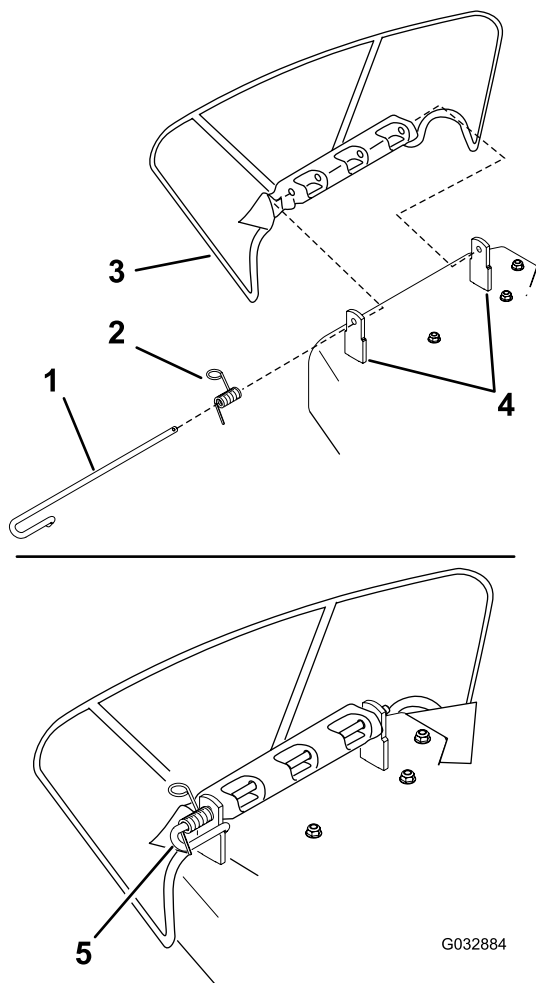

Figure 62
1. Disengage the spring from the notch in the deflector bracket and slide the rod out of the welded deck brackets, spring, and discharge deflector (Figure 62). Remove the damaged or worn discharge deflector.
Note: Position the spring on the rod as shown in Figure 62 so that the shorter spring end is coming from under the rod before the bend and going over the rod as it returns from the bend.